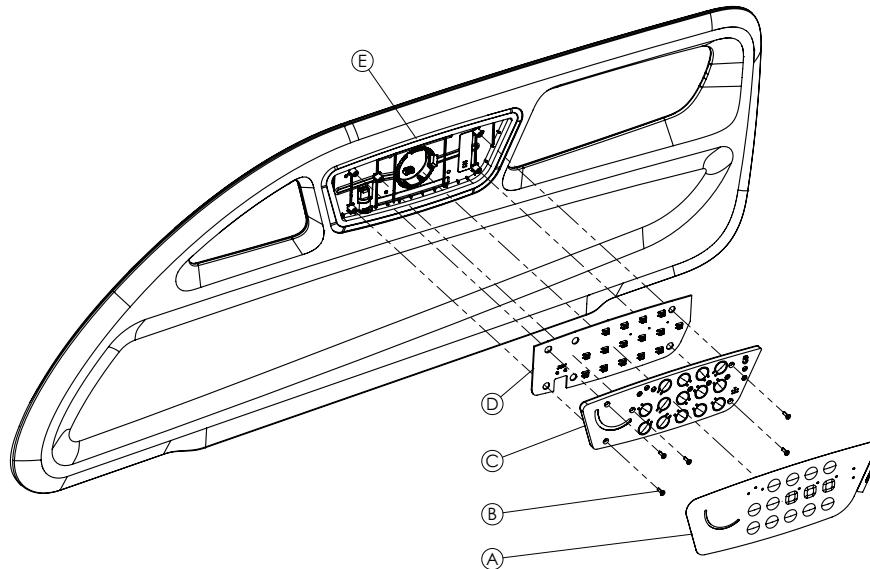
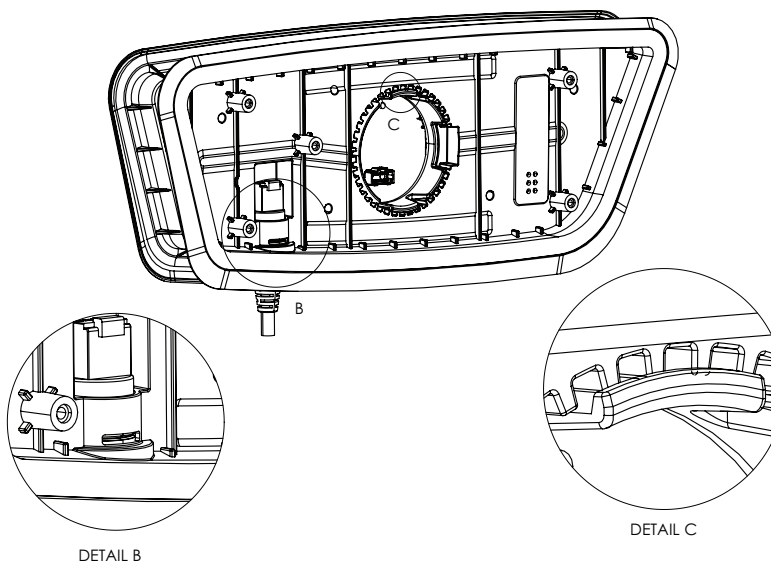

Figure 25 – Siderail control panel assembly
Figure 26 – Disconnect the PCBA cables
4. Using a slotted screwdriver, remove the foil (A) from the disassembly side (Figure 25). Discard the foil.
6. Using a slotted screwdriver, push down on the RJ50 cable (Figure 26, Detail B) to gain clearance to remove the PCBA (D) (Figure 25). Press on the top side and on the O-ring. A small pulling force on the cable is beneficial.
10. Using a slotted screwdriver, release the last two snaps (Figure 26, Detail C). Remove the side panel from the bed frame.